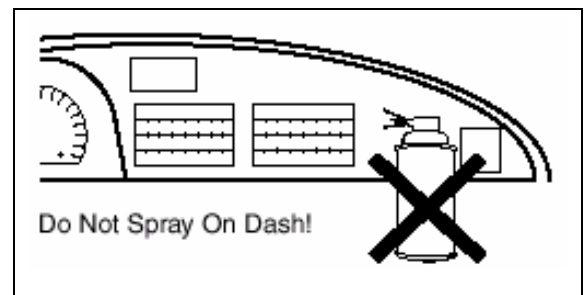

Figure A3
4. Do not spray cleaning solutions directly on factory dash surfaces. (Figure A3)